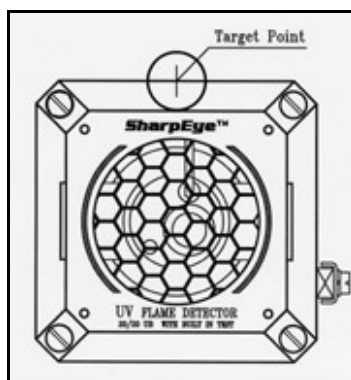

Figure 14: UV Detector Target Point
- 1 Aim the Fire Simulator towards the detector's "Target Point" (see Fig. 14)